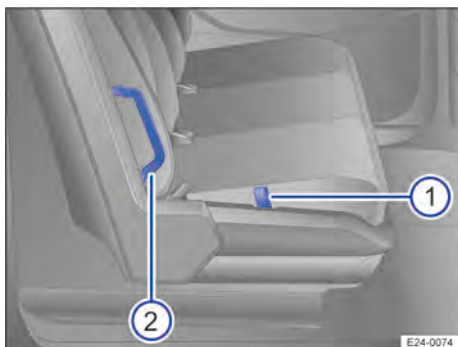

Fig. 85 Flexible partition in bench seat position.
1. Pull and hold the loop → Fig. 85 ①.
2. Pull the bench seat forwards using the handle → Fig. 85 ②.
2. Pull and hold the loop → Fig. 85 ①.
3. Pull the bench seat backwards using the handle → Fig. 85 ② and press down.